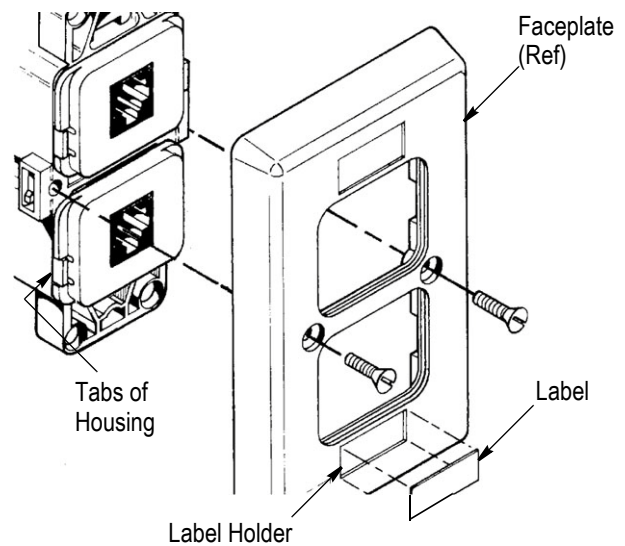

Figure 7
2. Properly align the slots on the back of the faceplate with the tabs on the edge of the housing. See Figure 7.